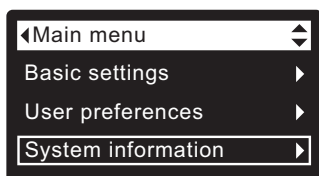

FIG. 53
1. From any of the rolling status screens, press the SELECT (O) button to display the **Main menu**.
2. Press the DOWN (▼) button to scroll through the menu options until **System information** is highlighted (See Figure 53).